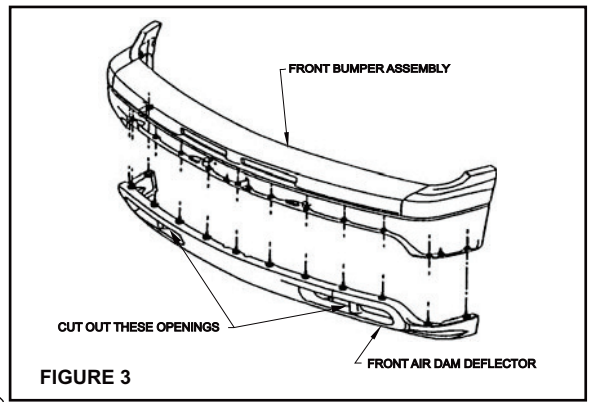

FIGURE 3
- STEP 4.** Attach brackets to frame using 1/2" fasteners as shown. Leave loose. **NOTE:** For vehicles without tow hooks a small opening may need to be cut out in the two inside indents of the airdam using a utility knife. **SEE FIGURE 3.**